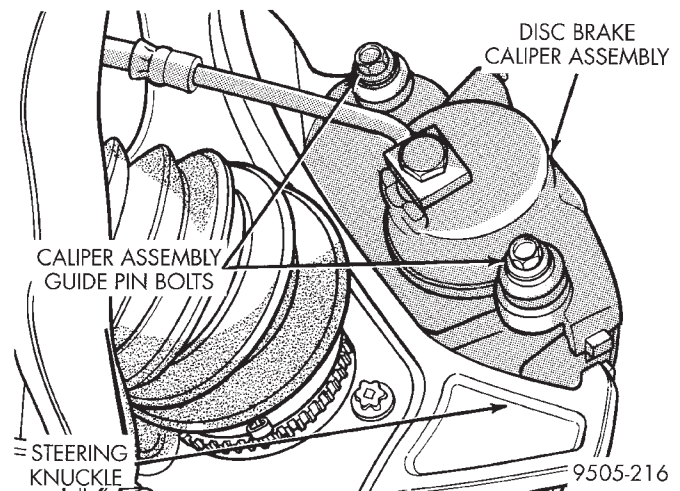

Fig. 78 Brake Caliper Attaching Bolts
(1) Raise vehicle on jackstands or centered on a frame contact type hoist. See Hoisting in the Lubrication and Maintenance section of this manual, for the required lifting procedure to be used for this vehicle.
(2) Remove the front wheel and tire assembly from the vehicle.
(3) Remove front disc brake caliper to steering knuckle attaching bolts (Fig. 78).
(5) Install disc brake caliper assembly attaching bolts (Fig. 78) and torque to 31 N·m (23 ft. lbs.).